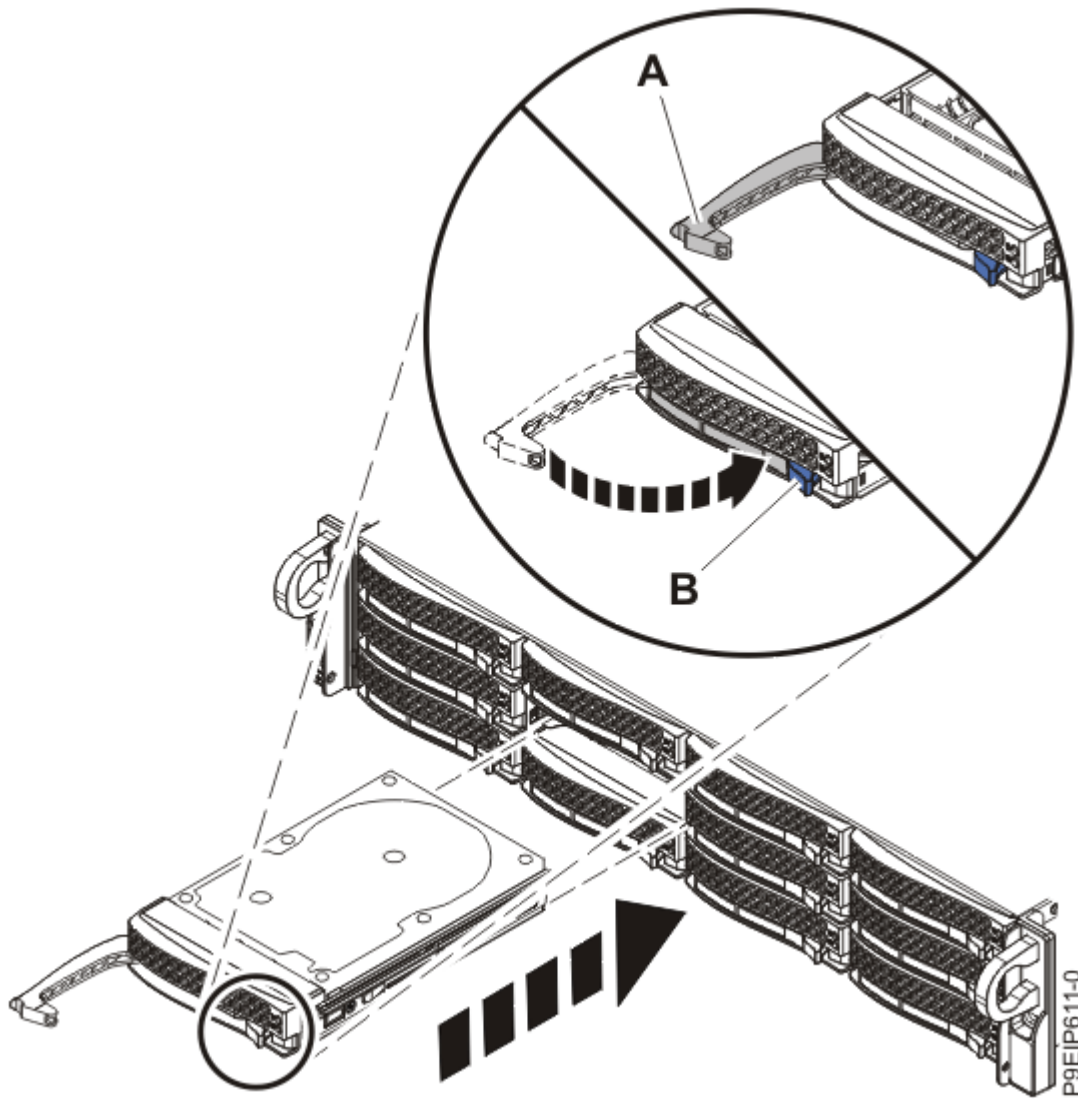

Figure 4. Disk drive lock detail
4. Lock the drive bay handle **(A)** by pushing in the handle release until it locks at **(B)** as shown in Figure 4 on page 7.